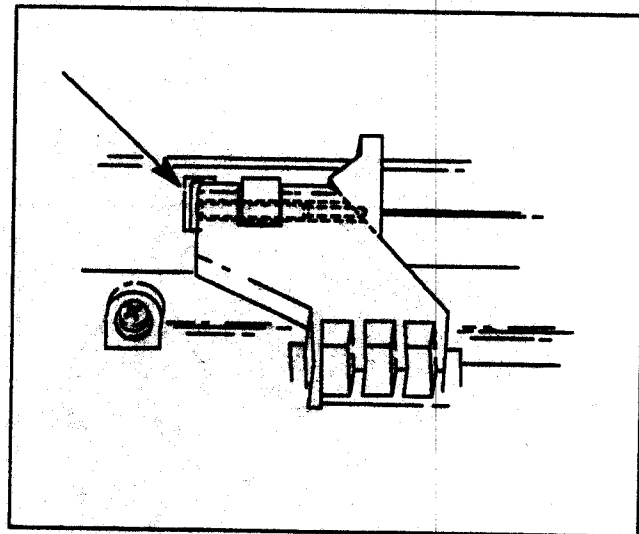

Figure 6-19. Pinch Wheel Removal
b. Press on the shaft retainer protruding at the end of the pinch wheel shaft to release the retainer and shaft from the pinch wheel arm. See Figure 6-19.